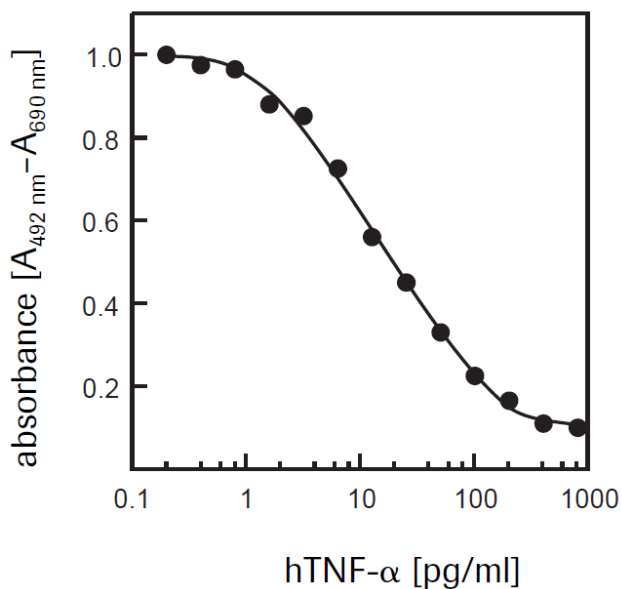

Fig. 2: Determination of the cytotoxic activity of recombinant human TNF-α on WEHI-164 cells (mouse fibrosarcoma) using the described protocol.
- Useful for the measurement of cytotoxicity. Examples include the quantification of tumor necrosis factor-α or -β effects (Fig. 2) or the assessment of cytotoxic or growth inhibiting agents, such as inhibitory antibodies (Fig. 3).
For the determination of the cytotoxic effect of hTNF- α on WEHI-164 cells, see Figure 2.